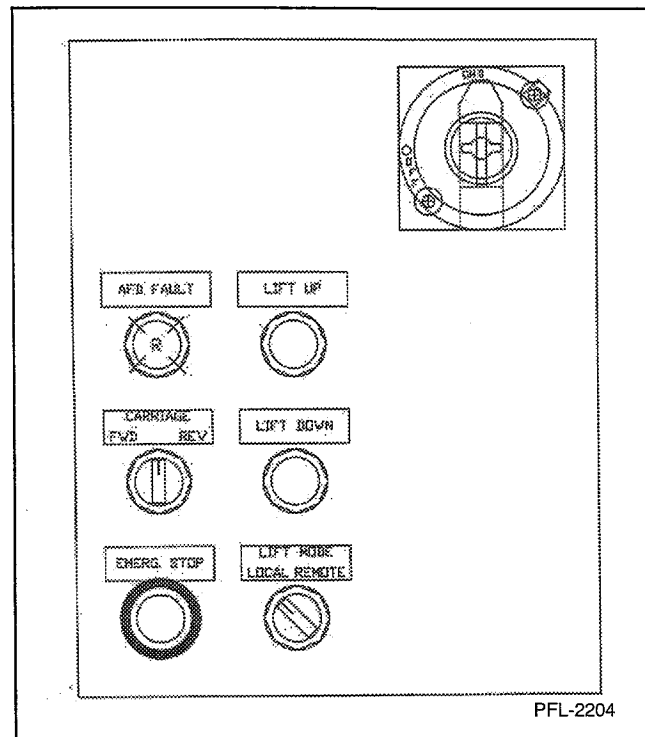

Figure 2
3. The main control panel includes a push button station with manual controls for running the lift in a "maintenance (local) mode" as well as an EMERGENCY STOP button. Power to the panel is controlled by a large main disconnect switch. See Figure 2.